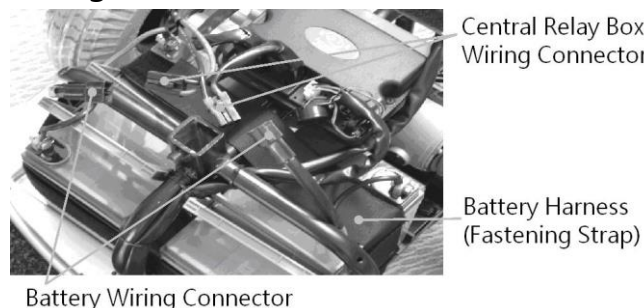

Figure 6-2
6.6.5 Disconnect the connectors of the battery from the connectors of the central relay box. (See Figures 6.2, 6.3 and 7.1)